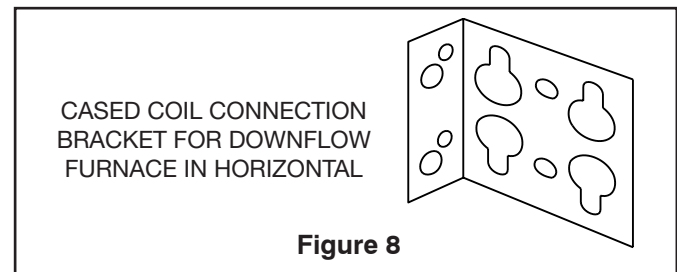

Figure 8
- d. There are three brackets included with the non-condensing downflow furnace which are used to connect the furnace and coil together. See Figure 8.